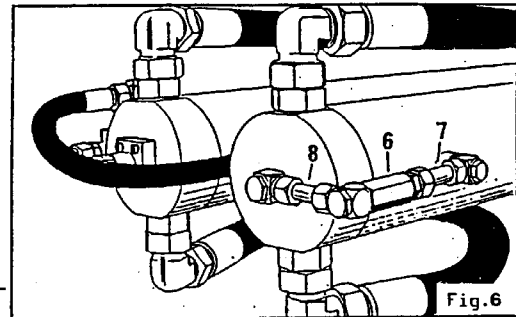

Fig. 6
(See Fig. 6) Remove check valve (Fig. 6 item 6), turn it end for end, and remount to tube (item 7). Connect a CLEAN hydraulic hose at connection (item 8) and lay the other end of the hose in the filler cap of the reservoir.